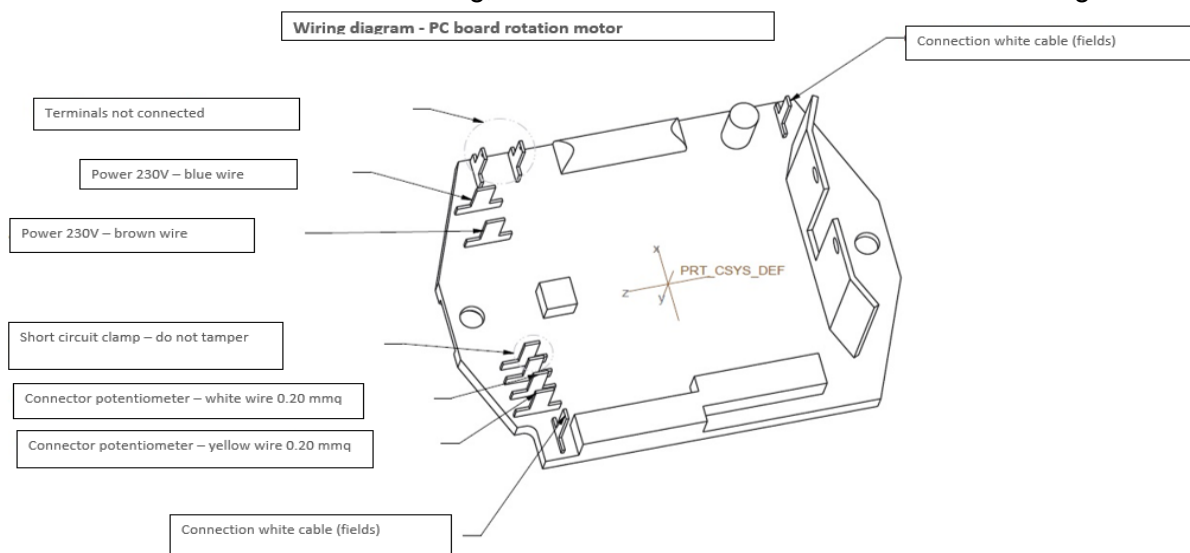

Figure 5.10
5.2.2 Proceed to disconnect the cables from the board, taking care, when reassembling, to restore the connections as shown in the figure 5.10;